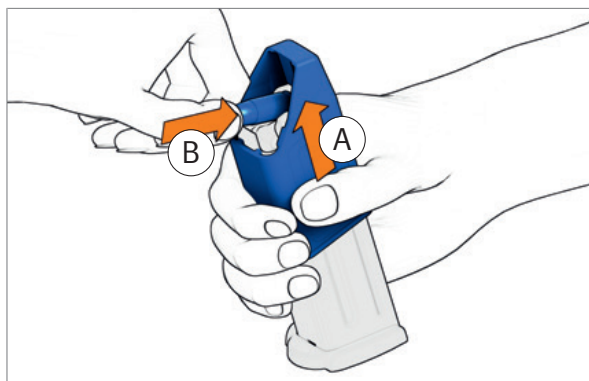

Fig. 43: Pushing cartridge to the rear
4. Lift loading aid (Fig. 43).
5. Push cartridge all the way to the rear (Fig. 43).